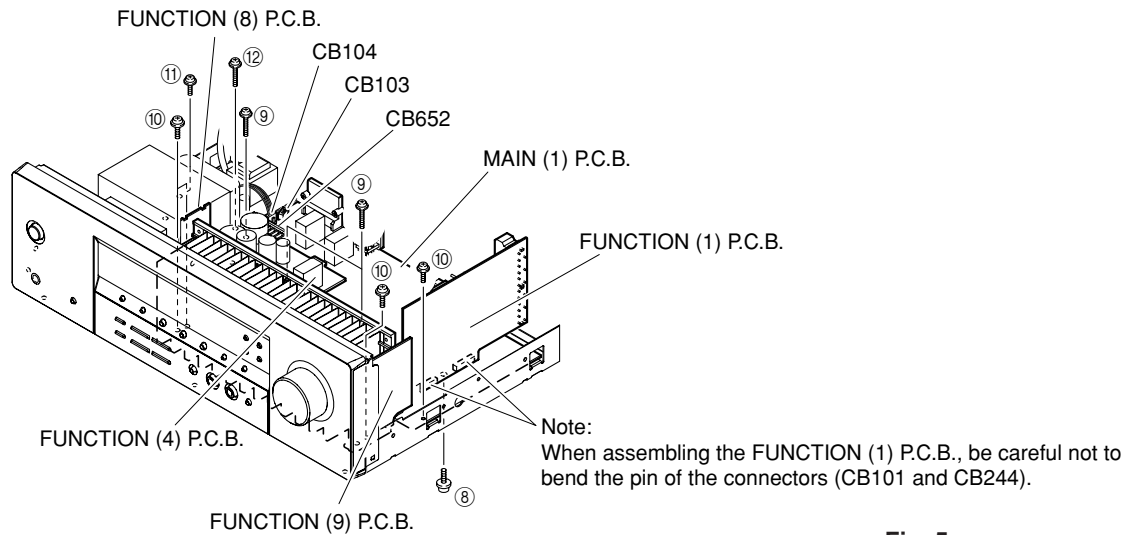

Fig. 5
- Remove 1 screw (⑧). (Fig. 5)
- Remove FUNCTION (1) P.C.B. (Fig. 5)
- Remove CB103, CB104 and CB652. (Fig. 5)
- Remove 3 screws (⑨). (Fig. 5)
- Remove 4 screws (⑩). (Fig. 5)
- Remove MAIN (1), FUNCTION (4), FUNCTION (8) and FUNCTION (9) P.C.B.s. (Fig. 5)
- Remove 1 screw (⑪). (Fig. 5)
- Remove 1 screw (⑫). (Fig. 5)
- Be sure to connect the ground of MAIN (1) P.C.B. (G103, G104, G241) and FUNCTION (4) P.C.B. (G651) to the chassis with a jumper wire or the like.